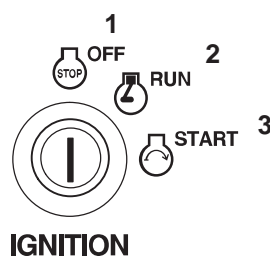

Figure 21
6. Turn ignition key to start to energize starter. When engine starts, release key (Fig. 21).
3. Let the engine idle for 60 seconds (Fig. 21).
4. Turn the ignition key to off (Fig. 21).